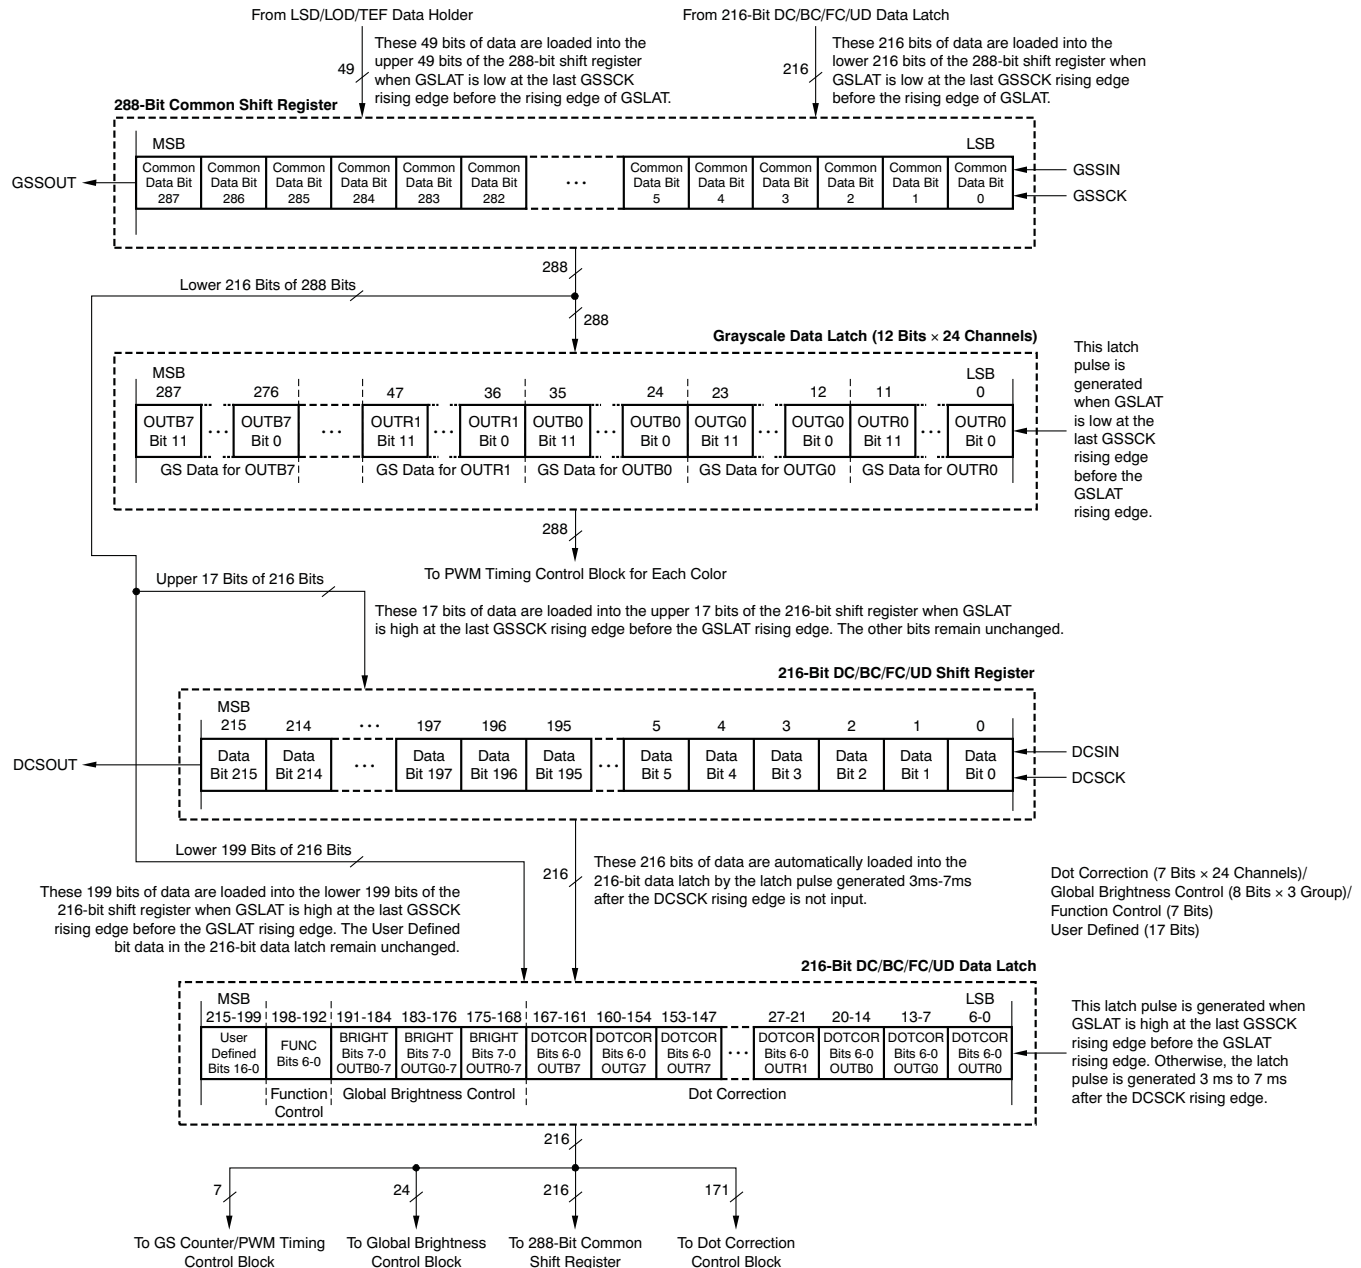

Figure 45. Grayscale Shift Register and Data Latch Configuration
The TLC5951 device has two data latches to store information: the grayscale (GS) data latch and the DC, BC, FC, and UD data latch. The GS data latch can be written as 288-bit data through GSSIN with GSSCK. The DC, BC, FC, and UD data latch can be written as data through DCSIN with DCSCCK. Also, DC, BC, and FC data can be written to the DC, BC, FC, and UD data latch through GSSIN with GSSCK. UD data are written to the upper 17 bits of the 216-bit DC, BC, FC, and UD shift register at the same time. The data in the DC, BC, FC, and UD data latch can be read via GSSOUT with GSSCK. Figure 45 shows the grayscale shift register and data latch configuration.